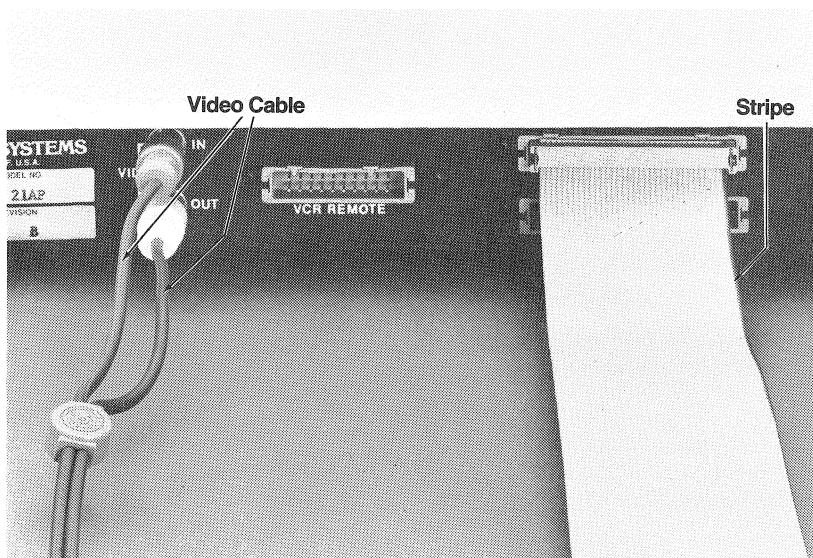

FIGURE 2.12 VIDEO CABLES CONNECTED
3. Attach the cable that came with the Mirror to the drive cabinet backpanel to the connector labeled PROCESSOR. Attach the other end of this cable to the drive connector on the Mirror interface board (as shown in figure 2.12).
4. Connect the cable from the interface card, Multiplexer, or Disk Server to the remaining 34 pin connector on the Mirror interface board (as shown in figure 2.12).
You received a phono plug cable with your Mirror. For self-contained Mirrors, connect this cable to the drive cabinet backpanel and to the VCR (see figure 2.12).